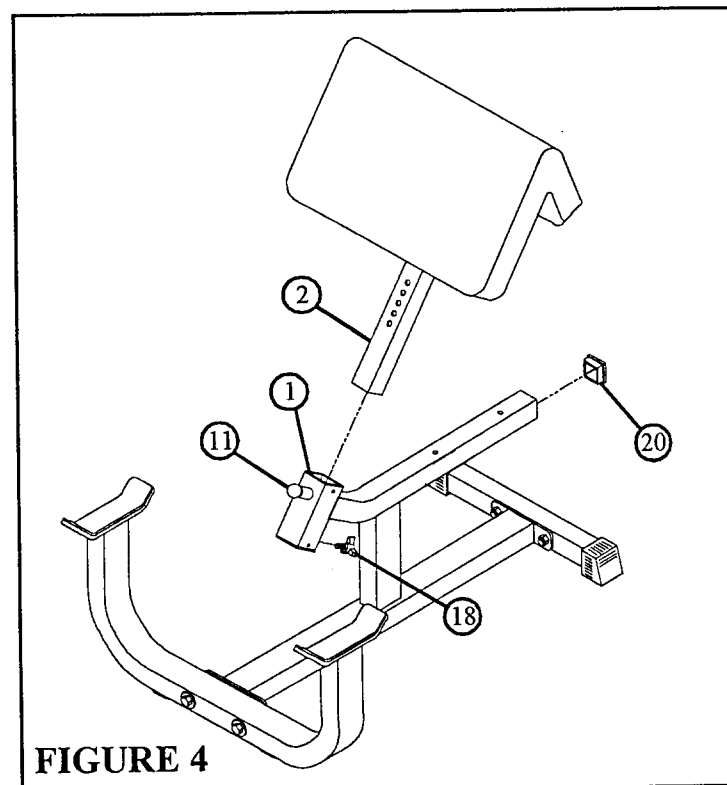

FIGURE 4
- Pull back on the 3/8" SPRING PIN (11) and insert the ARM PAD SUPPORT (2) into the BENCH FRAME (1) as shown in FIGURE 4.
- Assemble the THUMBSCREW (18) into the TAB NUT on the BENCH FRAME (1) as shown in FIGURE 4. Tighten the THUMB SCREW to secure the ARM PAD SUPPORT in place.
- Insert one 2" SQ END CAP (20) into the end of the BENCH FRAME (1) as shown in FIGURE 4.